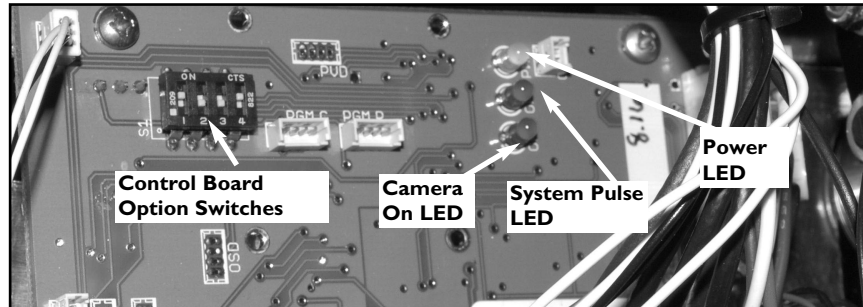

Figure 7: Control Board
1. Located on the control board are the Control Board LED's. See **Figure 7**.
Options may be controlled via the four "Option Switches," see **Figure 7**, see **Detail A** for their respective functions. It is advised to verify operation first by using the On Screen PVD Menu to control these options. After verification of settings via the PVD Menu the Control Board Option switches can be accessed.